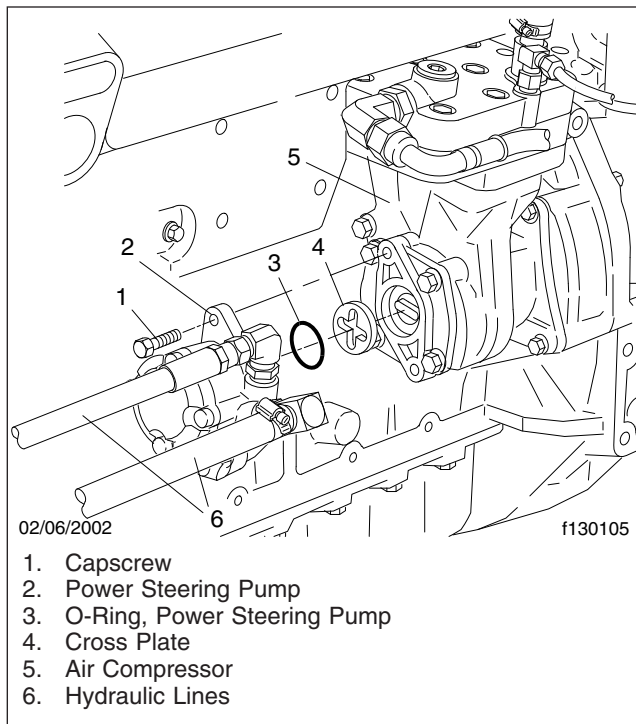

**Fig. 2, Locking Device Installation**
- 3.1 Using two capscrews, install the SPX Kent-Moore locking device (PN KM 904 589 03 63 00) on the air compressor where the power steering pump connects to the air compressor. Tighten the capscrews until the air compressor drive is locked. See Fig. 2.